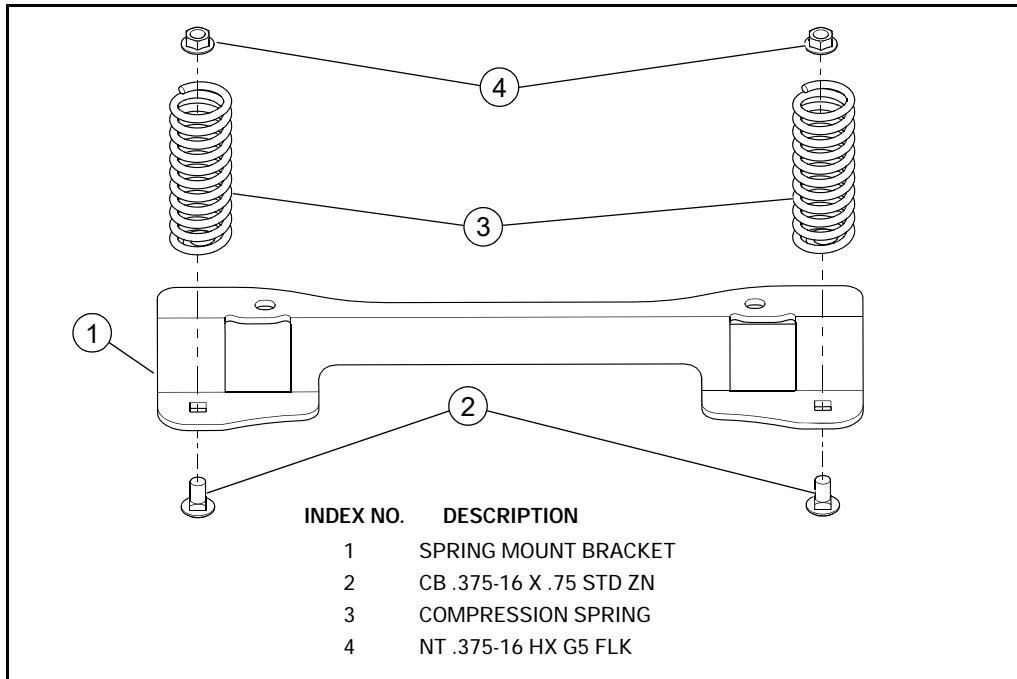

FIG. 3
6. Attach the compression springs with the hardware supplied to the spring mount bracket. Torque the nuts to 30 ft-lbs (40 N•m). FIG. 3